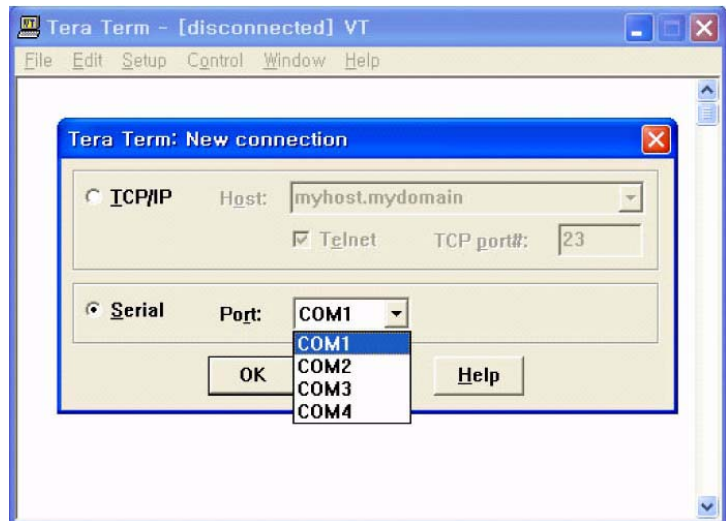

Figure 2
4. Select the appropriate port. (See Figure 2.)